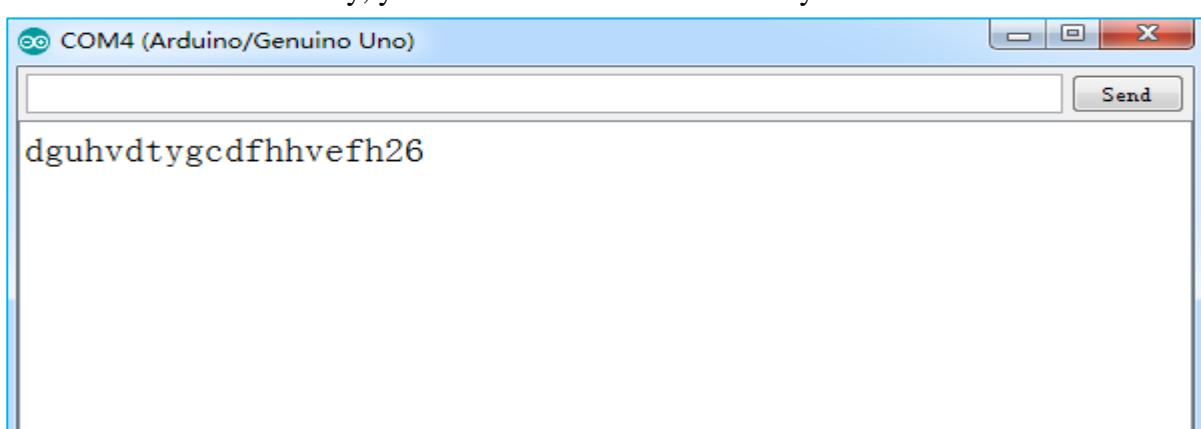

Figure 3.2.47 Serial Interface
5、After clicking Send, we can see that the serial port monitor has printed out the content sent by the mobile phone, as shown in Figure 3.2.47, which shows that the Bluetooth module can send data normally. Of course, in order to test more accurately, you can Test several times and try to test in different environments.